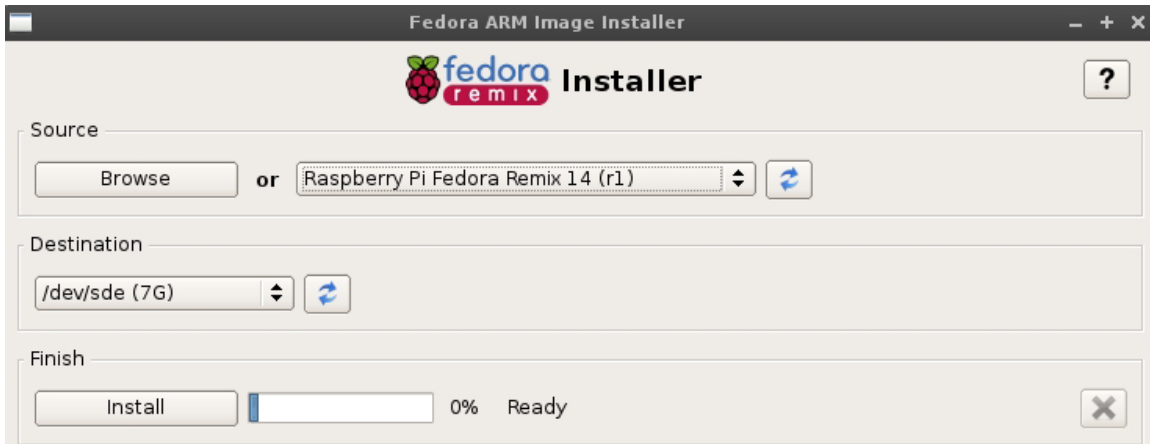

Figure 2-1. The Fedora Raspberry Pi installer on Linux
2. Once you have extracted it you should see an executable called `fedora-arm-installer`. You may need to open this executable first. If you are running Fedora or Ubuntu, make sure you also have the `python-qt4` package installed, otherwise the GUI will not launch. Now if you run this you will get a nice little GUI pop up, as seen in Figure 2-1.
5. In the Destination section, click the button with the blue arrows again to refresh the device list. You may need root privileges to install to your removable media device. In Figure 2-1 my removable media is /dev/sde.